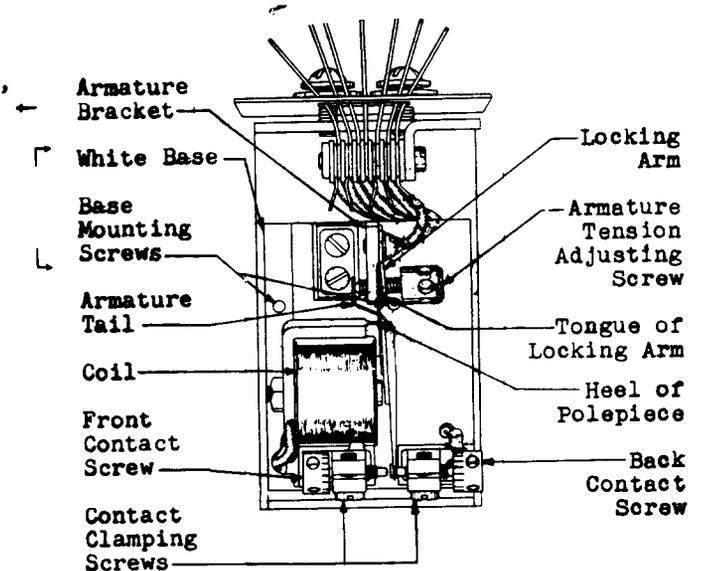
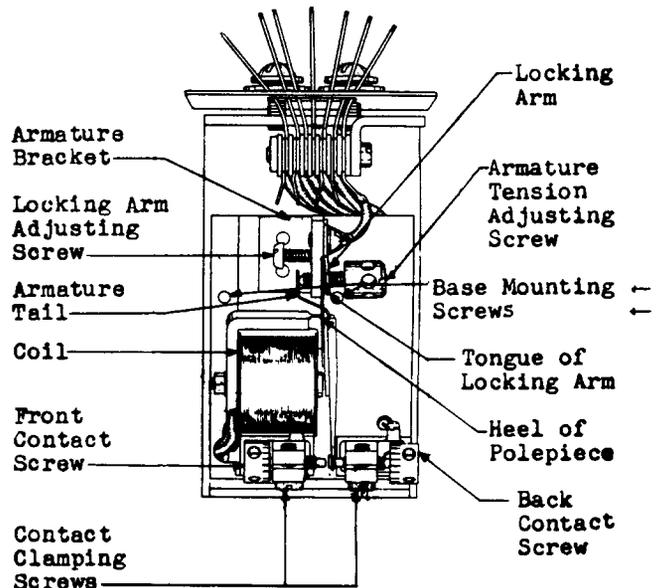
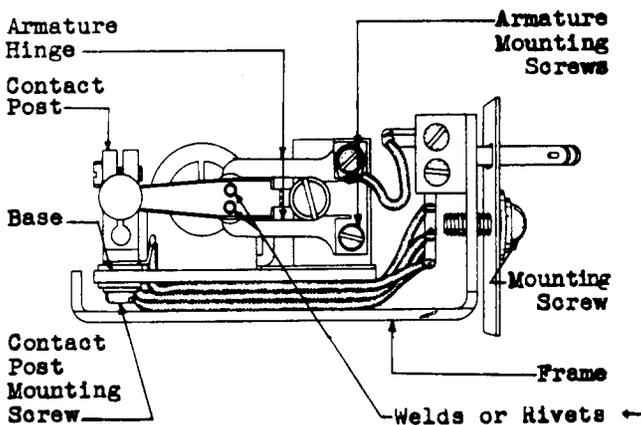

Fig. 1 - No. 267A and D-99739 Relays Equipped With a White Base - Top View
Fig. 2 - Nos. 267A and 267B Relays Equipped With a Locking Arm Adjusting Screw - Top View
Fig. 4 - Relay - Side View
2. To amplify figure information. (Fig. 1, Fig. 2, and Fig. 4)